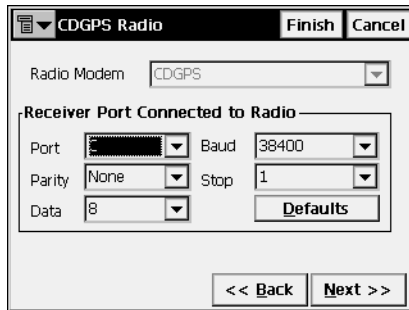

Figure 3-35. CDGPS Radio
- For CDGPS (Canadian nation-wide DGPS service), set the CDGPS Radio in the usual way of radio configuration (Figure 3-35).